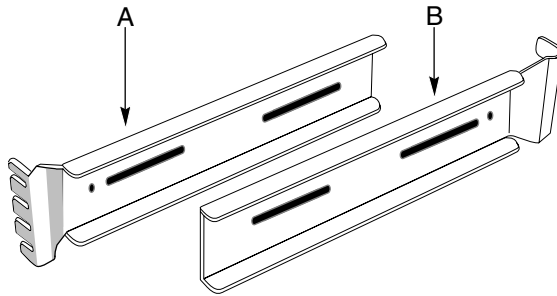

Figure: Step 4
- 4** Locate the front and rear rail brackets for one side of the rail kit. One pair (A and B in Figure Step 4) exists for each side of the cabinet rack.